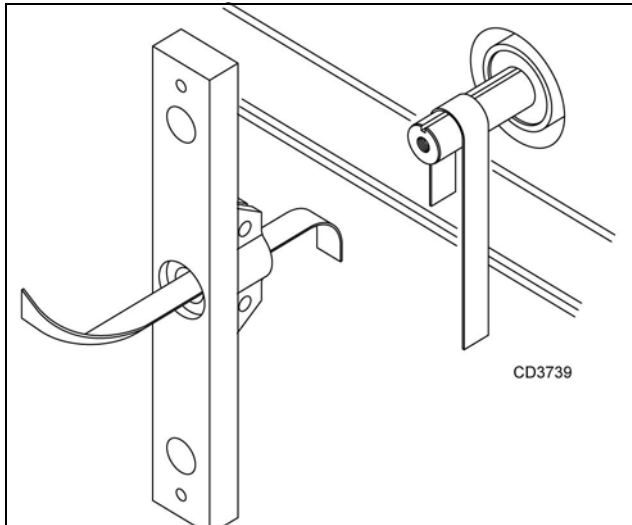

Figure 16. Typical Crossbar Assembly
1. Using emery cloth (220 or finer), remove surface rust, Loctite®, and foreign material from hub, splined gearbox vertical shaft, and crossbar as shown in Figure 16.